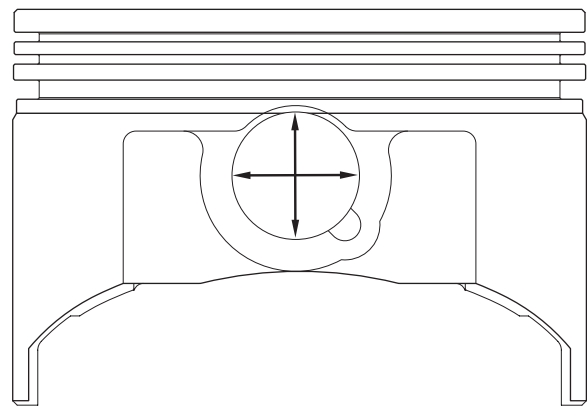

Figure 12-5. Check Piston Pin Bore
3. Check piston pin bore, Figure 12-5.